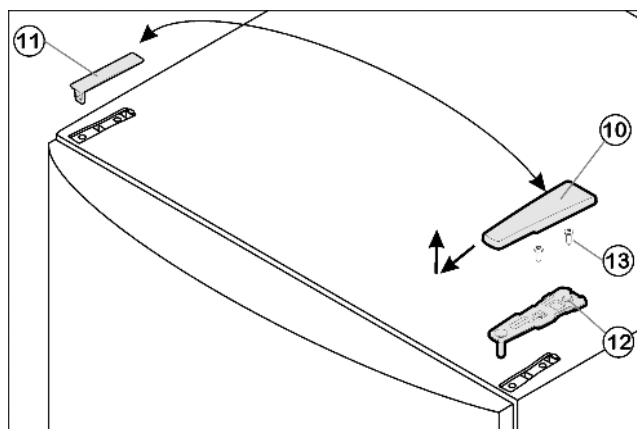

Fig. 8
- ▶ Pull off the cover *Fig. 8 (10)* forwards and upwards.
- ▶ Lift off the cover *Fig. 8 (11)*.
- ▶ Unscrew the upper turn hinge *Fig. 8 (12)* (2x Torx® 25) *Fig. 8 (13)* and lift it off.